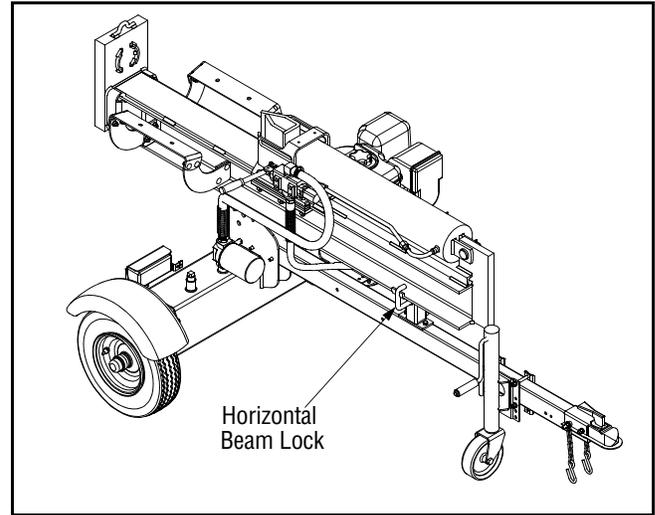

Figure 15
- To lock the beam in the horizontal position, pull out on the horizontal beam lock and pivot it to secure the beam. See Figure 15.